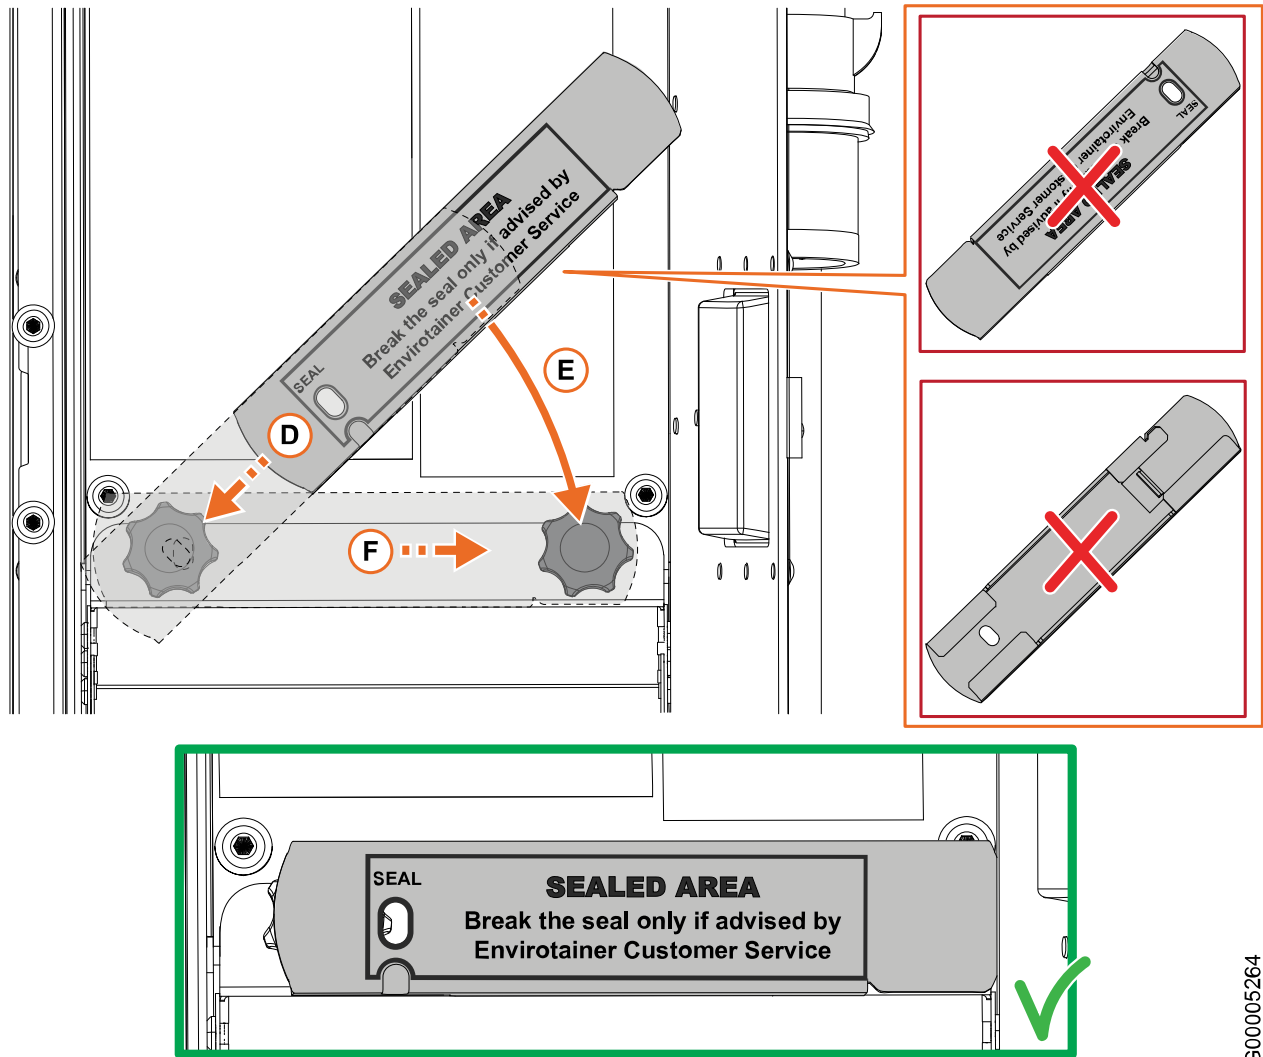

Fig. 31
11. Mount the bracket over the thumbscrews (Fig. 31):